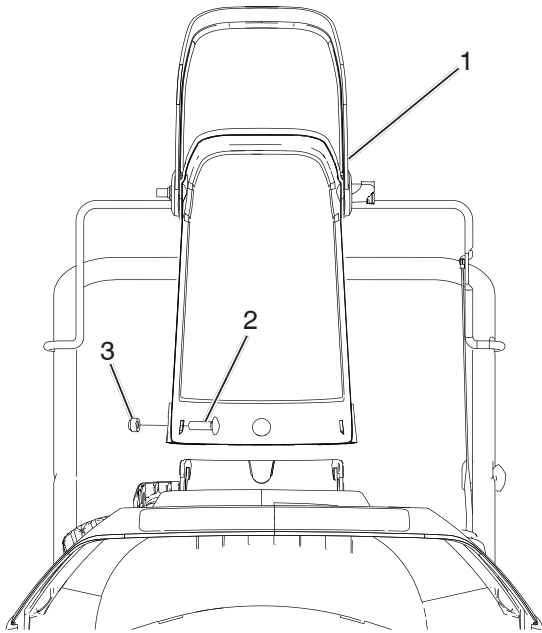

Figure 27
3. Remove the discharge chute, the discharge chute handle by removing the three carriage bolts and flange nuts (Figure 27).
17. Install the discharge chute, and the discharge chute handle onto the snowthrower using the hardware removed in step 3 (Figure 27).